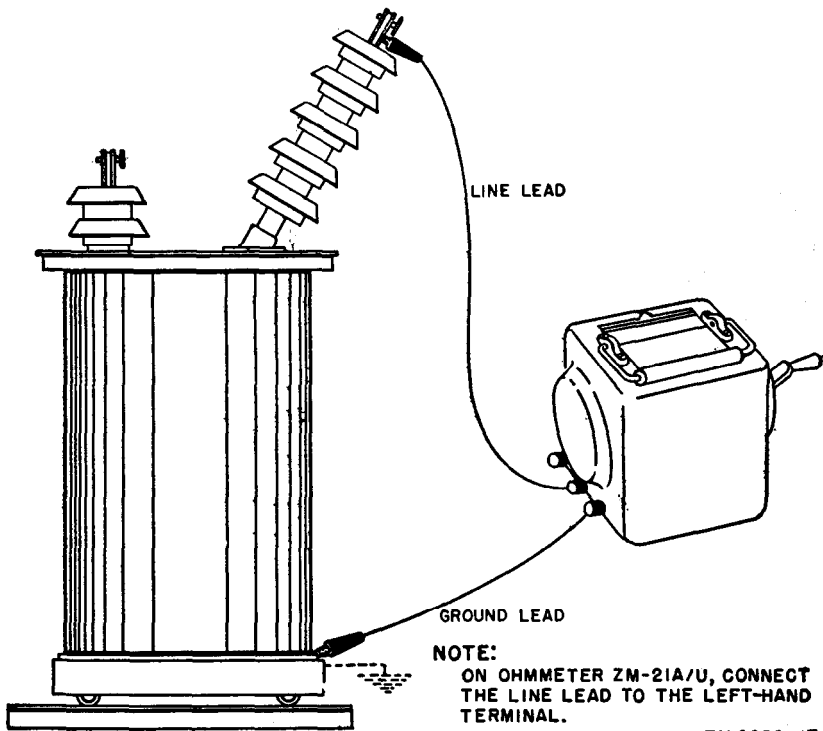

Figure 9. Connections for testing transformers.
a. Connect a test lead from the GROUND terminal of the ohmmeter to the core or case of the transformer (fig. 9).